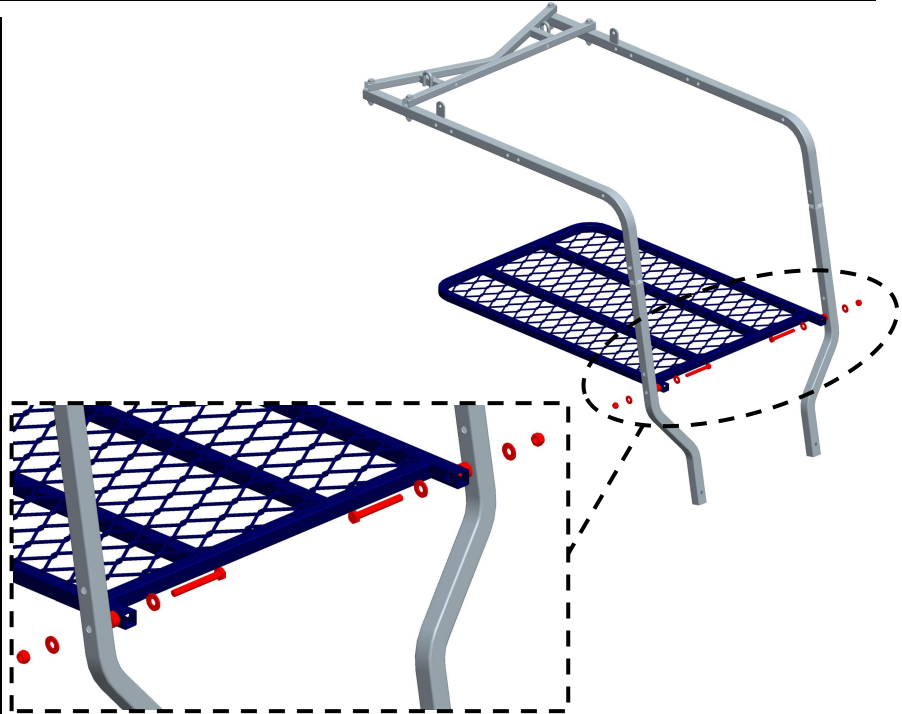

Figure 3
Locate Standing Platform (#8). Install the front of Standing Platform (#8) onto the Ladder Connect Bars (#6) using two (2) M8x70 Bolts, four (4) Nylon Washers, two(2) thicker Nylon Washers and two (2) Locknuts as shown in Figure 3. Securely tighten bolts.